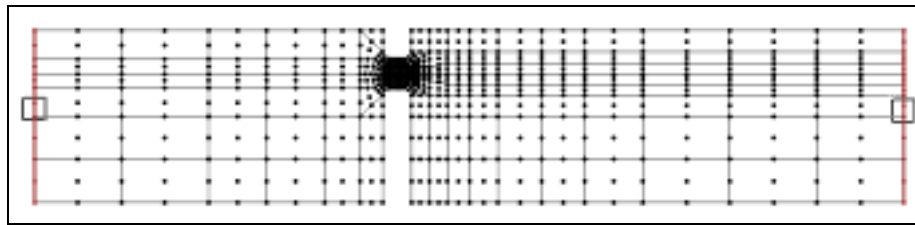

Figure 8-2. Location of the boundary condition nodestrings.
A steady state model such as this can only have constant boundary conditions. The flow and head boundary conditions will be defined at nodestrings on opposite sides of the model as shown in Figure 8-2. To create the two boundary nodestrings:
1. Choose the *Select Nodestrings*  tool from the *Toolbox*. An icon appears at the center of each nodestring, as shown in Figure 8-2.